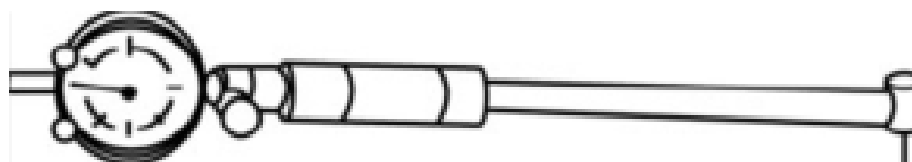

Figure 4-13 Inside micrometer
- 6) Check the bore of valve guide. The bore of valve guide is the contact area between the valve guide and the valve; if the wear exceeds the permissible value, the guiding effect will be affected and therefore, the operational reliability of diesel engine is reduced. The size of bore of valve guide can be measured with an inside micrometer, as shown in Figure 4-13. The permissible range of valve guide bore diameter is 9-9.015 mm; if it is exceeded, it is necessary to replace the cylinder head to ensure the operational reliability of diesel engine.